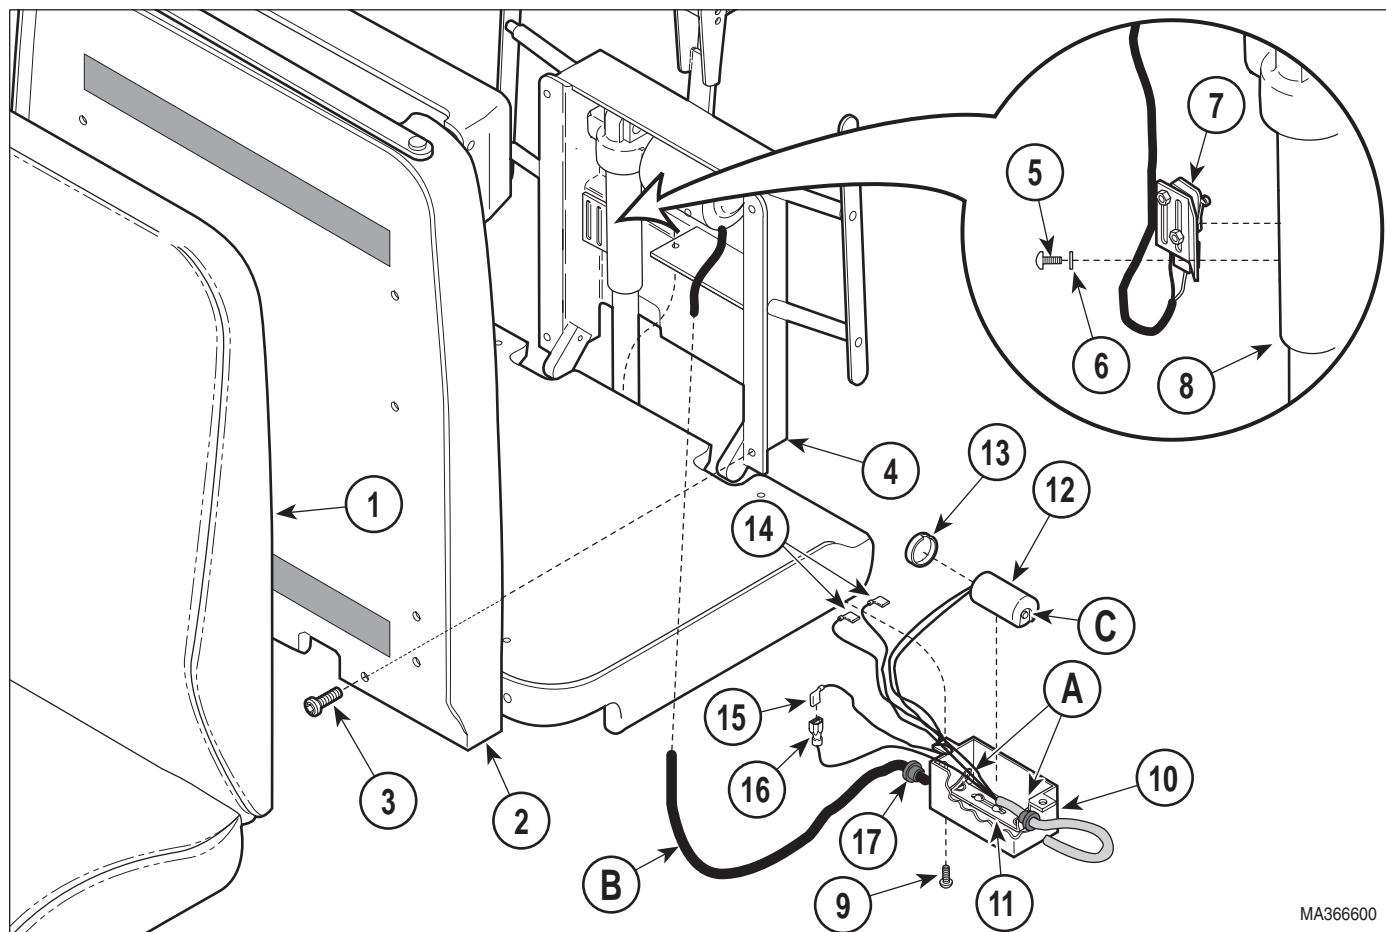
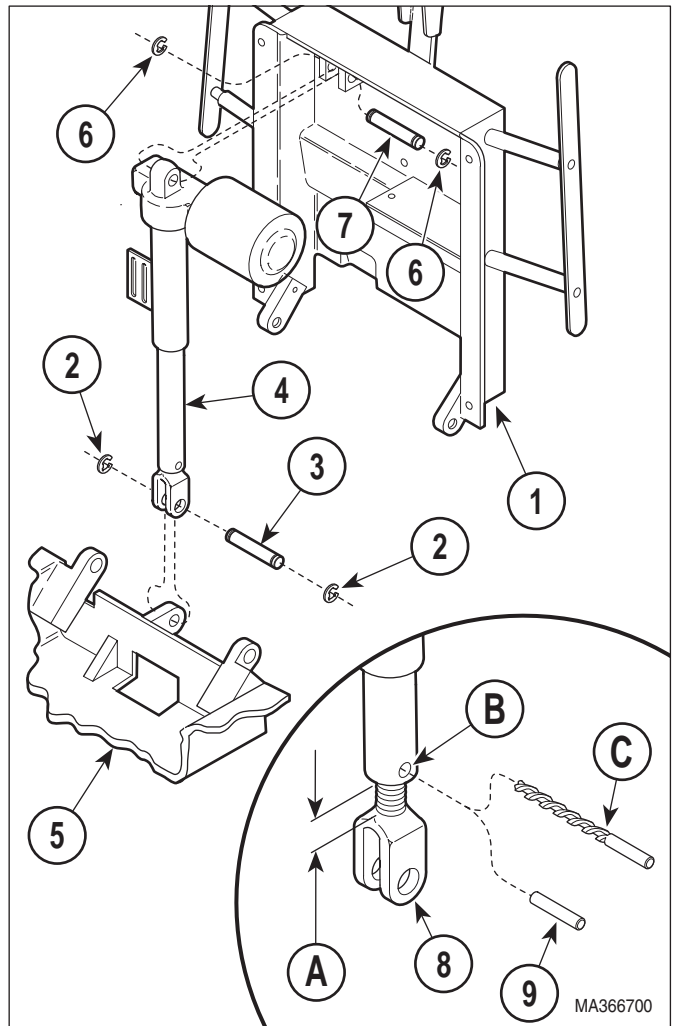

Figure 4-9. Back Actuator Wires Disconnection / Connection
Figure 4-10. Back Actuator Removal / Installation
- (1) Unplug table power cord from outlet receptacle.
- (2) Remove upholstered back (1, Figure 4-9) from back board (2).
- (3) Remove four screws (3), and back board (2) from back weldment (4).
- (4) Remove two screws (5), lockwashers (6), and back actuator limit switch assembly (7) from back actuator (8).
- (5) Remove two screws (9) and back capacitor cover (10) from back weldment (4).
- (6) Using screwdriver, pry tab (A) of capacitor mounting bracket (11) outward; then remove back capacitor (12) from capacitor mounting bracket.
- (7) Remove cap (13) from back capacitor (12).
- (9) Tag and disconnect two actuator wires (14) from terminals of back capacitor (12).
- (10) Disconnect actuator wire (15) from wire (16).
- (11) Remove snap bushing (17) from back capacitor cover (10).
- (12) Pull back actuator wires (B) thru snap bushing (17).
- (13) While supporting back weldment (1, Figure 4-10), remove two e-rings (2) and clevis pin (3) which is securing back actuator (4) to seat weldment (5). Lower back weldment down.
- (14) Remove two e-rings (6), clevis pin (7), and back actuator (4) from back weldment (1).
- (15) If back actuator (4) is being replaced, measure and record Distance (A).
- (1) Screw or unscrew clevis (8, Figure 4-10) of new back actuator (4) until Distance (A) is set.
- (2) Install back actuator (4) on back weldment (1) and secure with clevis pin (7) and two e-rings (6).
- (3) Raise back weldment (1) into position; then temporarily connect back actuator (4) to seat weldment (5) with clevis pin (3).
- (4) Pull back actuator wires (B) thru snap bushing (17, Figure 4-9).
- (5) Install snap bushing (17) in back capacitor cover (10).
- (6) Connect actuator wire (15) to wire (16).
- (7) Connect two actuator wires (14) to terminals of back capacitor (12).
- (8) Install cap (13) on back capacitor (12).
- (9) Position bottom of back capacitor (12) on capacitor mounting bracket (11) and then push the top of the capacitor inward. Using a screwdriver, force the tab (A) of the capacitor mounting bracket down over the catch (C) of cap (13). Make sure back capacitor is held firmly in place.
- (10) Install back capacitor cover (10) on back weldment (4) and secure with two screws (9).
- (11) Install back actuator limit switch assembly (7) on back actuator (8) and secure with two lock-washers (6) and screws (5).
- (12) Plug table power cord into outlet receptacle.
- (13) Lower BACK DOWN function all the way down (until back actuator can be heard free wheeling).
- (14) Observe. Back weldment (1, Figure 4-10) should be parallel with seat weldment (5). If back weldment is parallel with seat weldment, go to step 19. If back weldment is not parallel with seat weldment, go to step 15.
- (15) While supporting back weldment (1), remove clevis pin (3) securing clevis (8) to seat weldment (5).
- (16) Screw clevis (8) inward or outward as determined necessary in step 14.